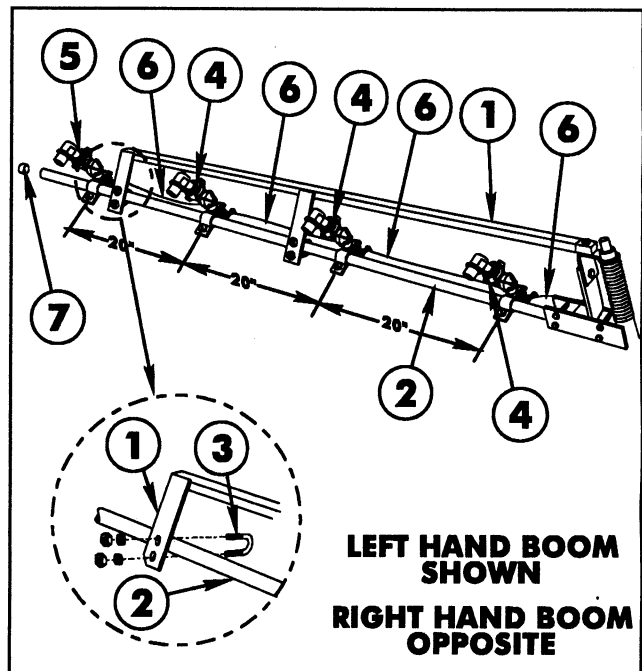

FIG. 12
12. Secure the two plates of the Boom Support Assembly to one of the Extension Boom Pipes, using two (2) 1/4" U-bolts, four (4) lock nuts and flat washers. See FIG. 12.
15. Attach three double barb and one single barb Nozzle Bodies with Clamp Assemblies on each Extension Boom Pipe as shown in FIG. 12. Nozzles are to be spaced on 20" centers. Connect the Nozzle Assemblies with the 3/4" x 19" Jumper Hose and 3/4" x 21" Jumper Hose. Secure with hose clamps.